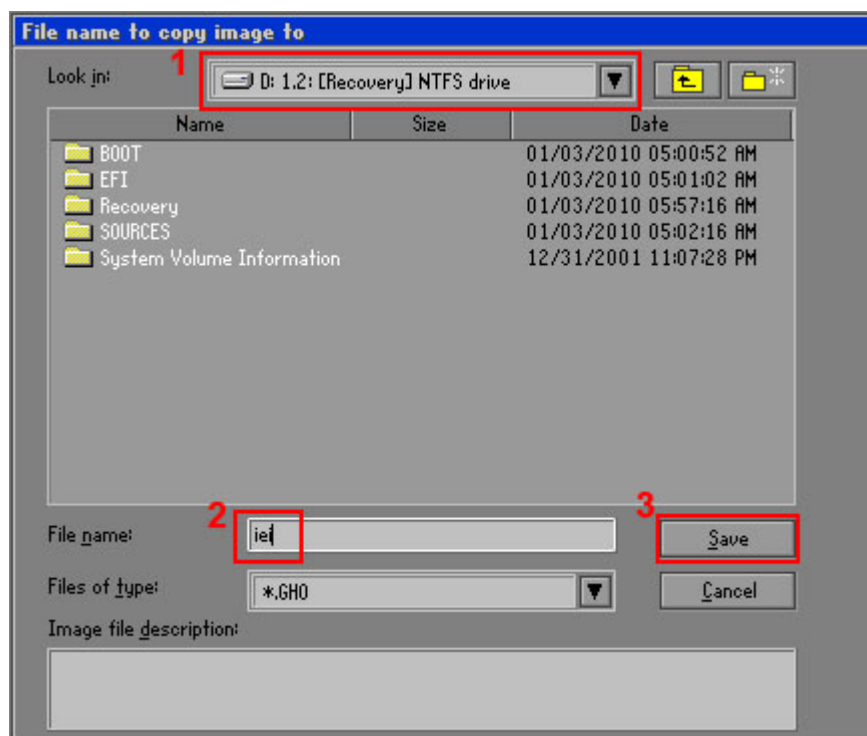

Figure A-16: File Name to Copy Image to
**Step 7:** Select **1.2: [Recovery] NTFS drive** and enter a file name called **iei** (Figure A-16). Click **Save**. The factory default image will then be saved in the selected recovery drive and named **IEI.GHO**.